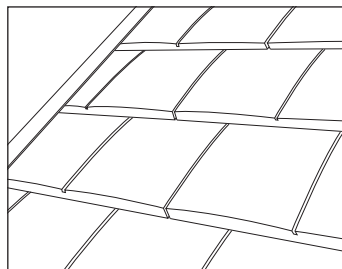

Fig. 6 – Inserting verge tiles
- 7 Lay tiles in the usual manner, ensuring the verge tiles are fully inserted into the verge extrusion and mechanically fixed (Fig. 6).